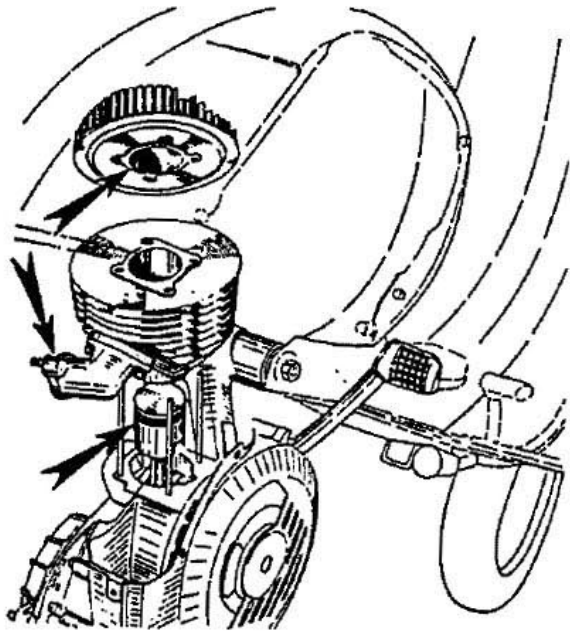

Fig. 18 - Cleaning the cylinder head, cylinder and piston
8) - Decarbonize the engine as explained hereunder. Remove the carburettor (screw n. 5, fig. 4), the rear wheel, the muffler, release the rear damper unit (n. 6, fig. 4), then rotate the engine downwards: remove the cooling hood, the cylinder head and the cylinder (see Fig. 18). Decarbonize the piston crown and the cylinder ports from all carbon deposits. Decarbonize the inner side of the cylinder head. Carefully clear the cylinder carbon deposits. Heat the exhaust pipe of the muffler and clean it either by scraping internally with a hooked wire or blowing air through from the other orifice; in both cases the muffler should be held so that the exhaust pipe is turned downwards.